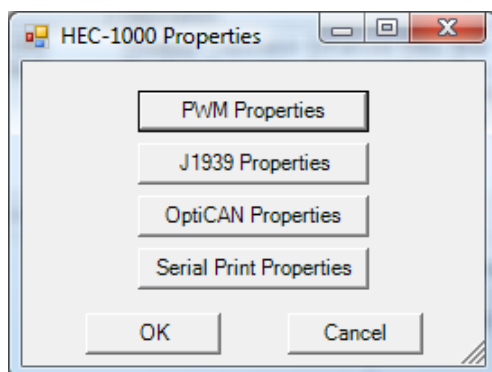

Figure 2.8 - HEC-1000 Properties Window
2. Click the **PROPERTIES** button. The HEC-1000 Properties Window will open. Refer to Figure 2.8.